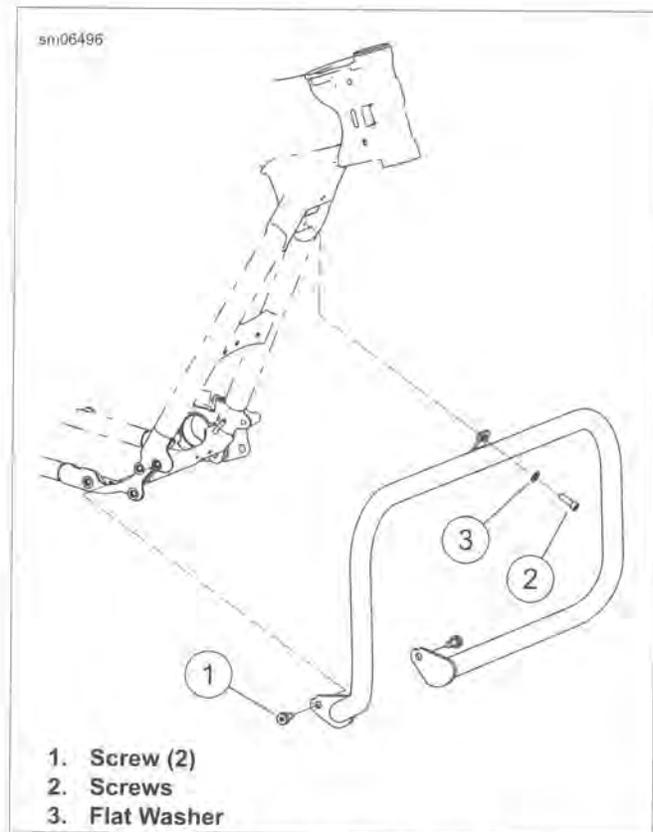

Figure 2-136. Engine Guard
2. See Figure 2-136. Remove two screws (1) to release ends of engine guard from frame weldments.
3. Remove screw (2) and flat washer (3) and remove engine guard.
1. See Figure 2-136. Insert tab at top of engine guard into slot at base of steering head. Start screw (2) with flat washer (3).
2. Secure lower ends of engine guard to frame weldments with screws (1).
3. Tighten lower screws (1) to 15-20 ft-lbs (20.3-27.1 Nm).
4. Tighten upper screw (2) to 22-28 ft-lbs (29.8-37.9 Nm).